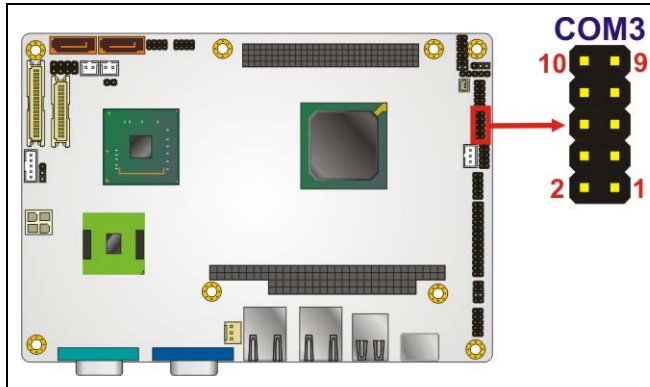

Figure 3-20: COM3 Connector Pinout Locations
- CN Location:** See **Figure 3-20**